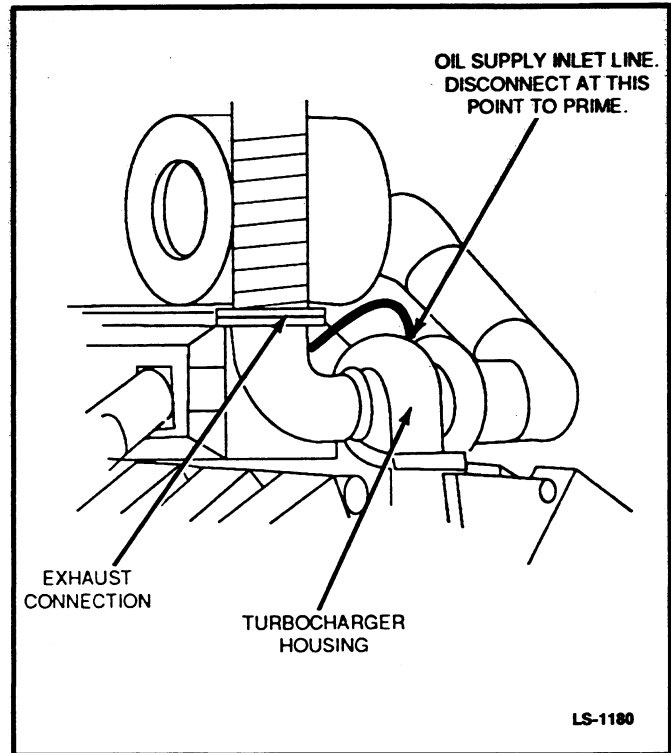

FIGURE 6-2. PRIMING TURBOCHARGER
1. Remove oil inlet line from each of the 2 or 4 turbo-charger housings (Figure 6-2), fill bearing housing with clean engine lubricating oil; replace line and secure.